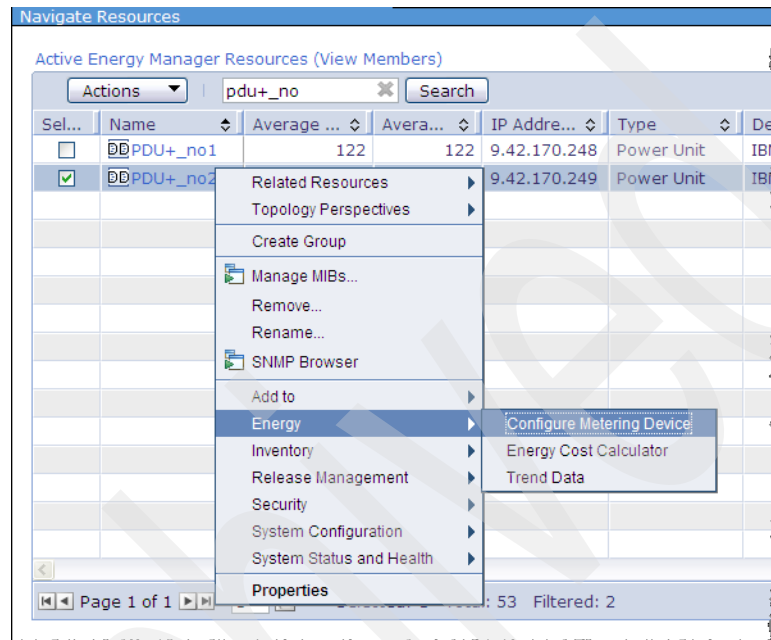

Figure 8-20 Selecting Configure Metering Device to edit each outlet group
1. Right-click the name of PDU+ (in this example PDU+\_no2), and then select **Energy** → **Configure Metering Device** as shown in Figure 8-20.